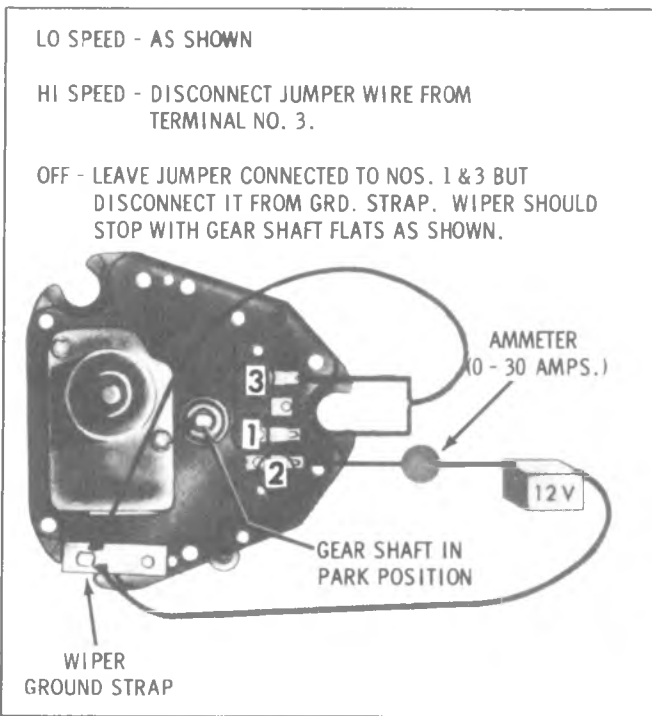

Fig. 8-40-Jumper Wire Connections
3. Disconnect wiring harness from wiper and try operating wiper as shown in Figure 8-40.